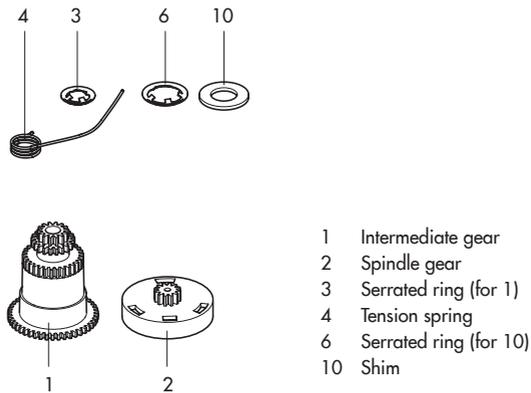

Fig. 9: Basic unit: order no. 1400-8829
- Basic unit: order no. 1400-8829 (see Fig. 9)
If the actuator does not have limit contacts, an additional retrofit kit (see Fig. 9 on page 23) is required.